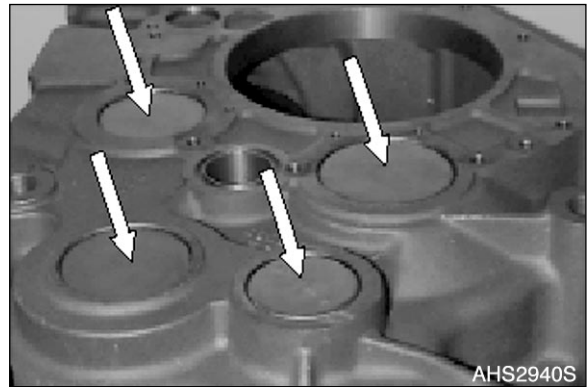

Figure 346
8. Drive the sealing covers (Figure 346) in, with the concave side showing downward, flush-mounted to the housing face.